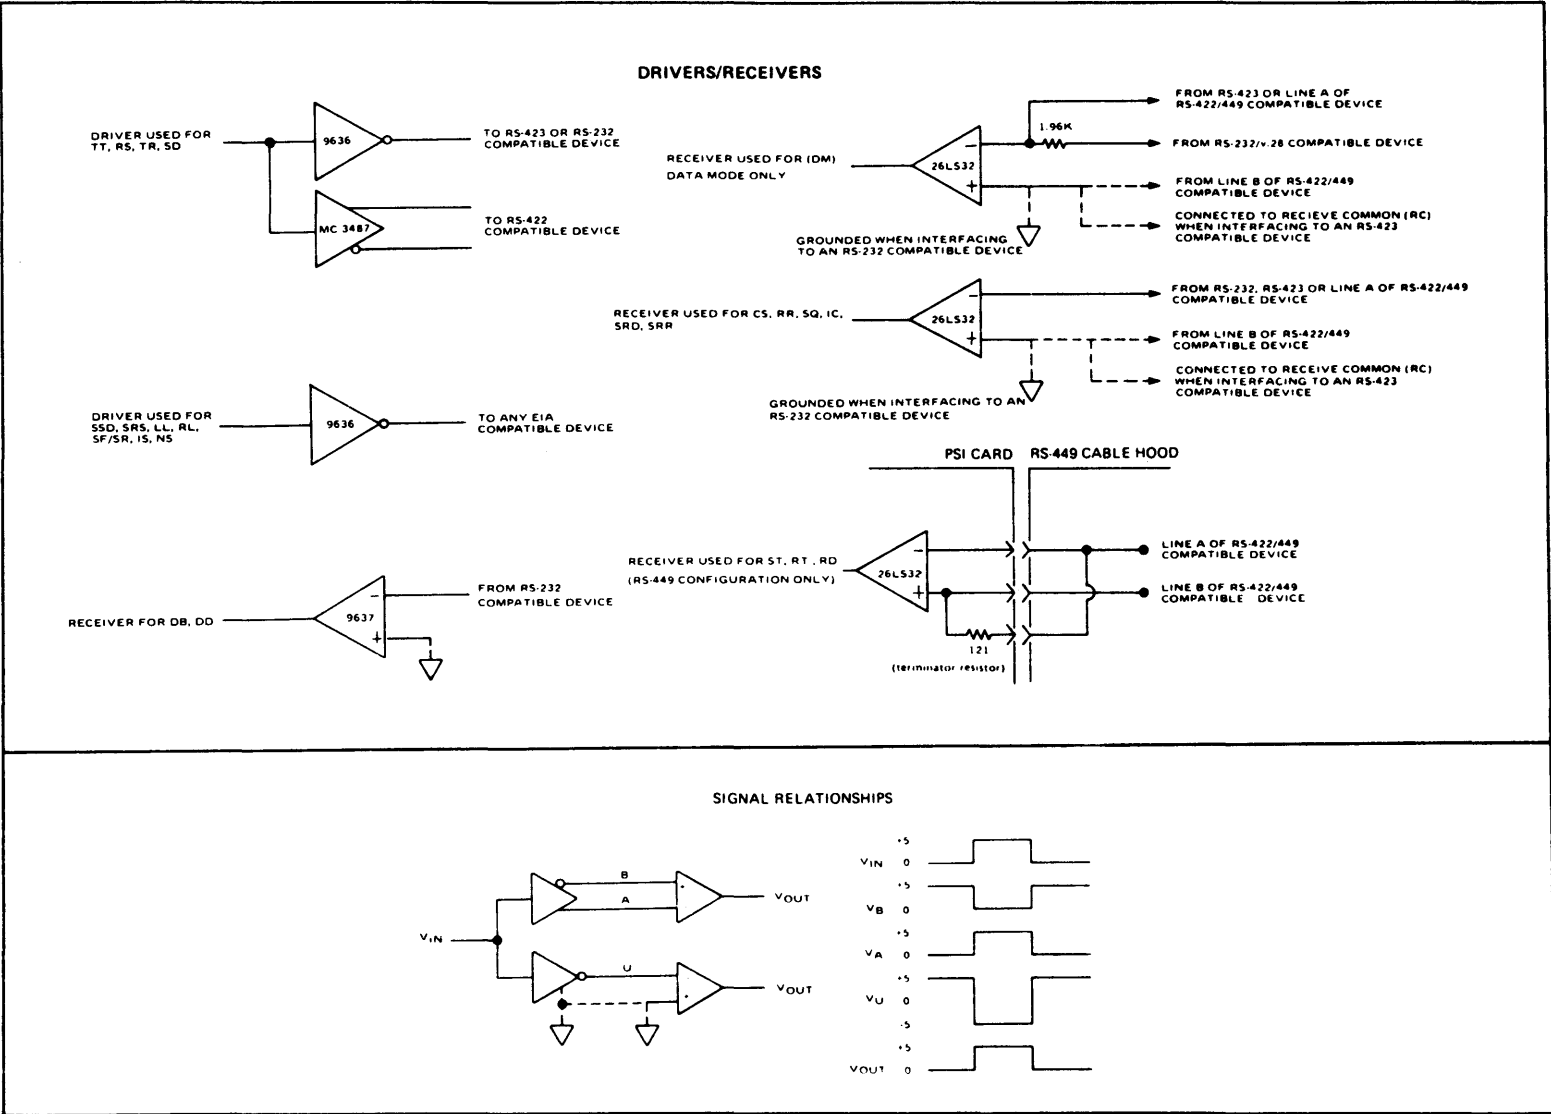

Figure 3-2. Driver/Receiver Combinations.
The EIA RS-449 standard consists of a combination of single-ended (EIA RS-423) and differential (EIA RS-422) drivers and receivers. The card uses both single-ended and differential drivers on some lines and only single-ended drivers on others. All of the receivers on the card are differential, although some are connected in such a way that they can only receive single-ended signals. The manner in which each signal is driven or received is illustrated in figure 3-2.
When a differential receiver is connected to a single-ended driver, the remaining input is either connected to ground (EIA RS-232-C or CCITT V.24/V.28) or to the Receiver Common (RC) circuit of the driving device (EIA RS-449). The various driver/receiver combinations are illustrated in figure 3-2. The combination used depends on the requirements of the modem. The receivers on the card can survive an input voltage range of +/- 25 volts and can operate with a maximum common mode input voltage of +/- 7 volts.